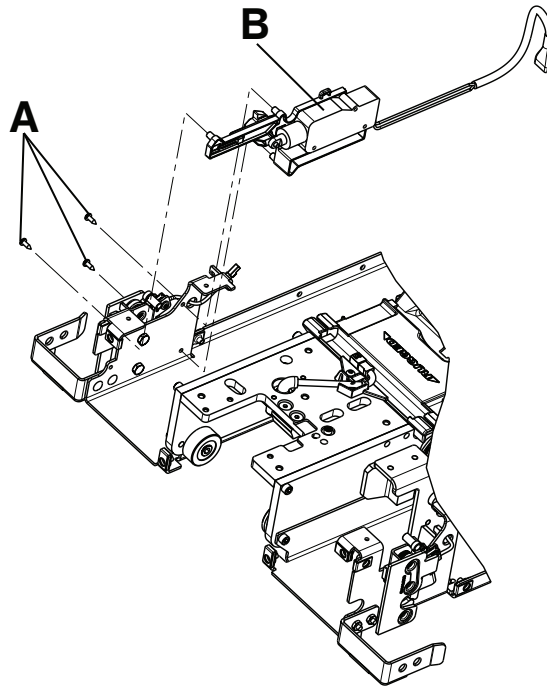

Figure 17 – Trolley actuator assembly
2. Using a T20 Torx driver, remove the three delta screws (A) that secure the trolley actuator (B) to the trolley frame (Figure 17). Save the screws.